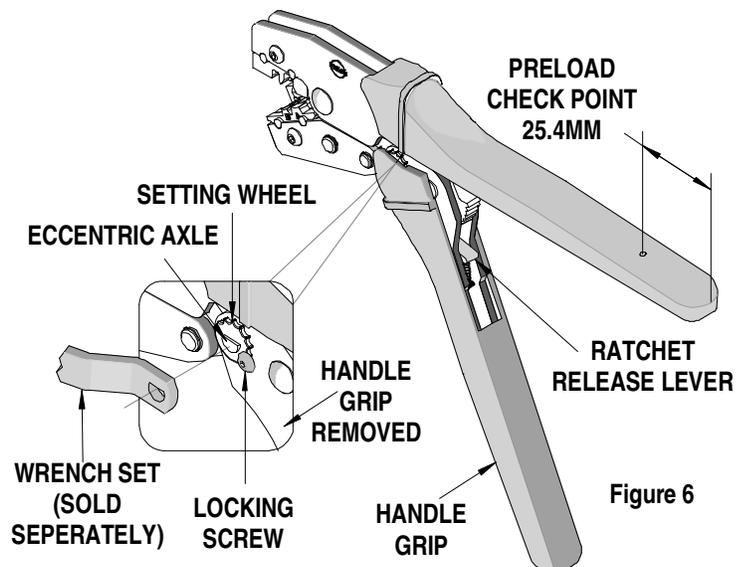

Figure 6
3. Make certain all pins; pivot points and bearing surfaces are protected with a thin coat of high quality machine oil. Do not oil excessively. The tool was engineered for durability but like any fine piece of equipment it needs cleaning and lubrication for a maximum service life of trouble free crimping. Use light oil, such as 30 weight automotive oil, at the oil points. Every 5,000 crimps, or 3 months, to significantly enhance the tool life. See Figure 6.
Should this tool ever become stuck or jammed in a partially closed position, **Do Not force the handles open or closed.** The tool will open easily by pressing the ratchet release lever. See Figure 6.
## How to Adjust Tool Preload (See Figure 6)